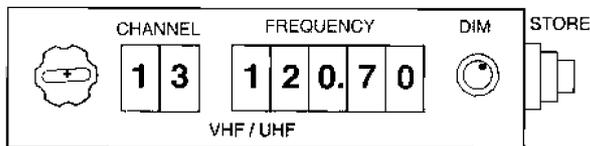

Figure 1-58
- A VHF / UHF indicator control panel (refer to figure 1-58) is installed on the instrument panel. The function of each control is: